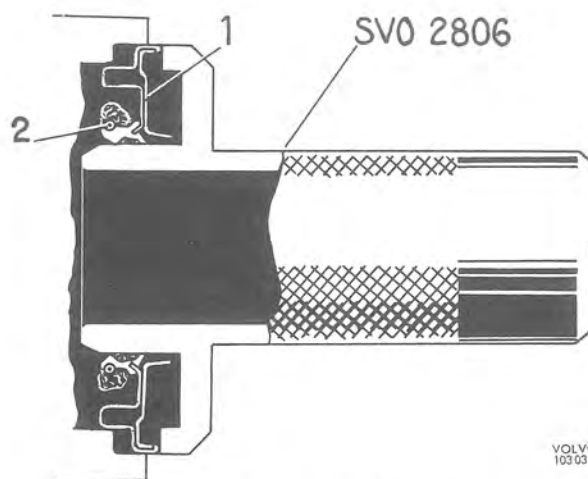

Fig. 4-139. Fitting oil seal
3. Fit the new oil seal with tool SVO 2806. When fitting the oil seal, lubricate the seal lips with grease. At the same time apply a layer of grease to the spring coil. See Fig. 4-139. This last-mentioned measure is made to prevent the spring coil from jumping out during fitting.